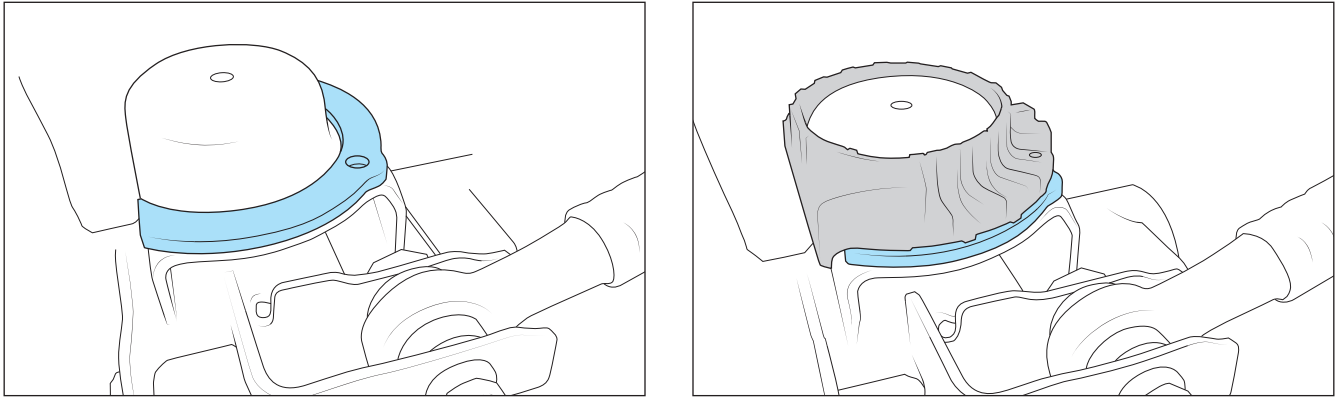

Figure 23
- A. GAS ONLY (ECO-DIESEL SKIP TO STEP B.) Remove passenger lower spring isolator by carefully prying it upward away from axle. Install front spring shim to bottom of isolator, passing molded stud through hole in shim. Reinstall assembly onto axle spring seat (Fig 23). There is more weight on right side of vehicle than left, so this helps it sit level. Shim sits underneath isolator on axle. NOTE: EcoDiesel does not need the shim due to more equal side-to-side weight balance).